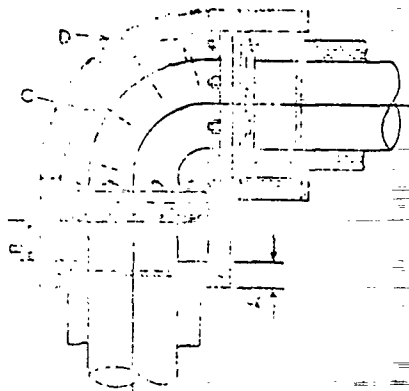

FIGURE 9
8.2 The insulation and flange shall be finished with block or pipe insulation used in accordance with Figure 9. The flange insulation shall overlap the adjacent pipe insulation by the thickness of the pipe insulation thickness, as shown in Figure 9 and 10.
8.3 See Figures 9 and 10